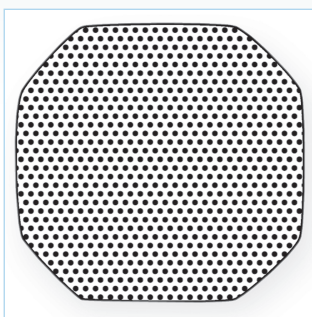

Figure 8
- Remove your OrthoPak when you bathe, shower or swim. You should also either remove the electrodes or cover them with the additional adhesive cover patches provided, as shown in Figure 8 if you prefer to leave the electrodes attached to the skin during bathing.